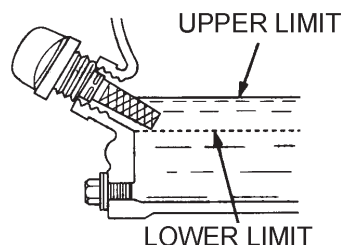

Figure 5. Engine Oil Dipstick (Oil Level)
4. If the oil level is low (Figure 5), fill to the edge of the oil filler hole with the recommended oil type as listed in Table 4. Refer to Table 2 for maximum engine oil capacity.